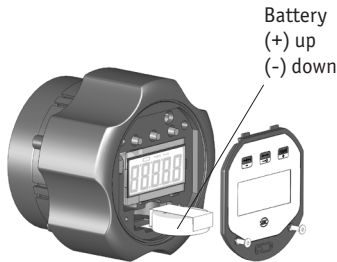

Fig. 3: Battery change
- See to it that the polarity is correct when you insert the battery (see fig. 3). Wrong polarity causes loss of programmed values.
For replacing the battery perform the following steps (see fig. 3):